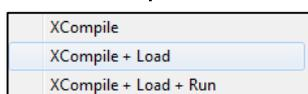

Figure 5: Right-click menu
- To compile and load a *smart*BASIC application, right-click in the main UWTerminal window and select **XCompile + Load** (Figure 5).